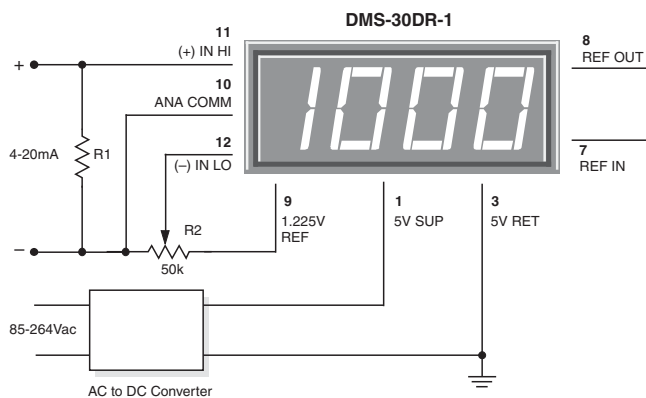

Figure 7. 4-to-20mA Current Loop Operation
**5. Process Control (4-to-20mA) Measurements:** In many common process-control applications, a 4-to-20mA current loop is used to transmit information. Because DMS-30DR meters have such high input impedance, a simple shunt resistor across the meter's input can be used to convert the loop current to a voltage. See Figure 7. The value of the shunt resistor is a function of the scaling requirements of the particular application and can be calculated using the following equation:
To calibrate the circuit of Figure 7, perform the following: